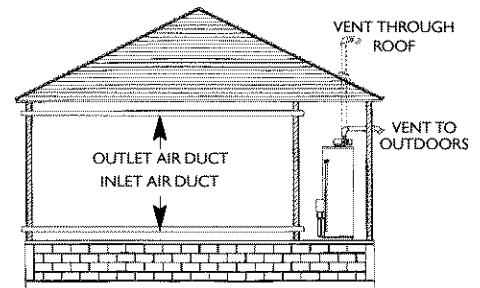

Figure 9
3. When communicating with the outdoors through horizontal ducts, each opening shall have a minimum free area of 1 square inch per 2,000 BTU per hour of total input rating of all equipment in the enclosure. (See Figure 9.)
4. When ducts are used, they shall be of the same cross-sectional area as the free area of the openings to which they connect. The minimum short side dimension of rectangular air ducts shall not be less than 3 inches. (See Figure 9.)